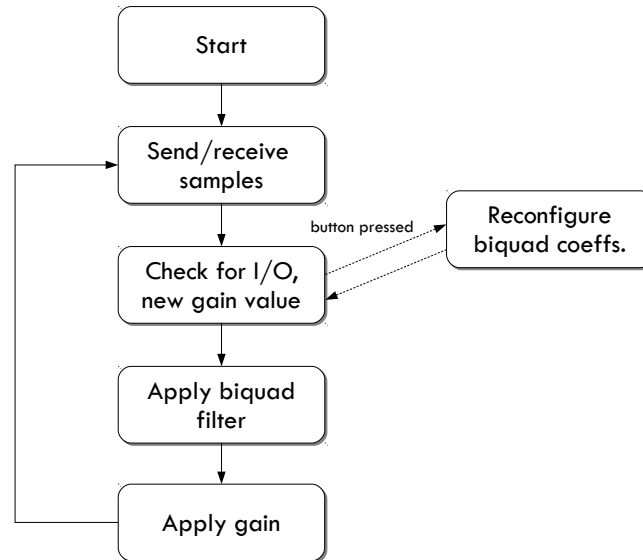

Figure 3: Flow diagram for the audio effects task.
The audio effects task follows the flow diagram show in Figure 3.
The implementation of the flow diagram in Figure 3 is a `while (1)` loop. It starts by sending and receiving samples over a channel connected to the I2S handler task: